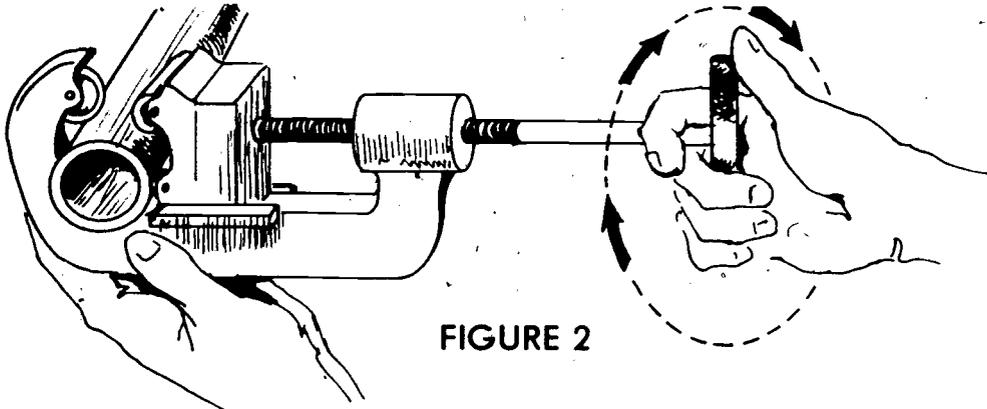

FIGURE 2
- F. Snug cutter up to conduit by rotating screw handle (Figure 2)